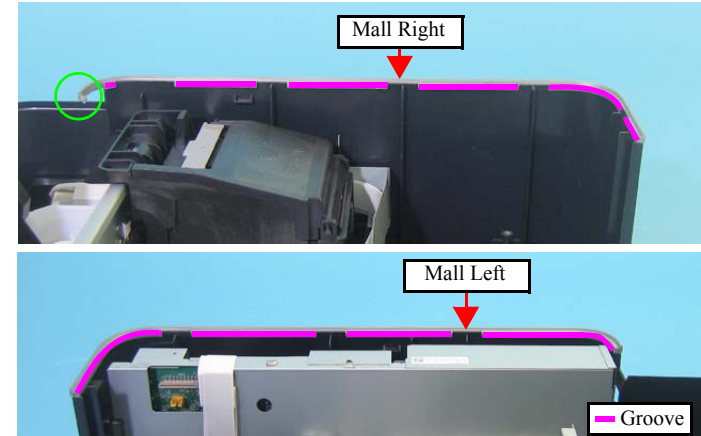

Figure 4-14. Installing the Upper Housing (1)
8. Remove the Mall Right and the Mall Left from the Lower Housing (Refer to Figure. 4-14).